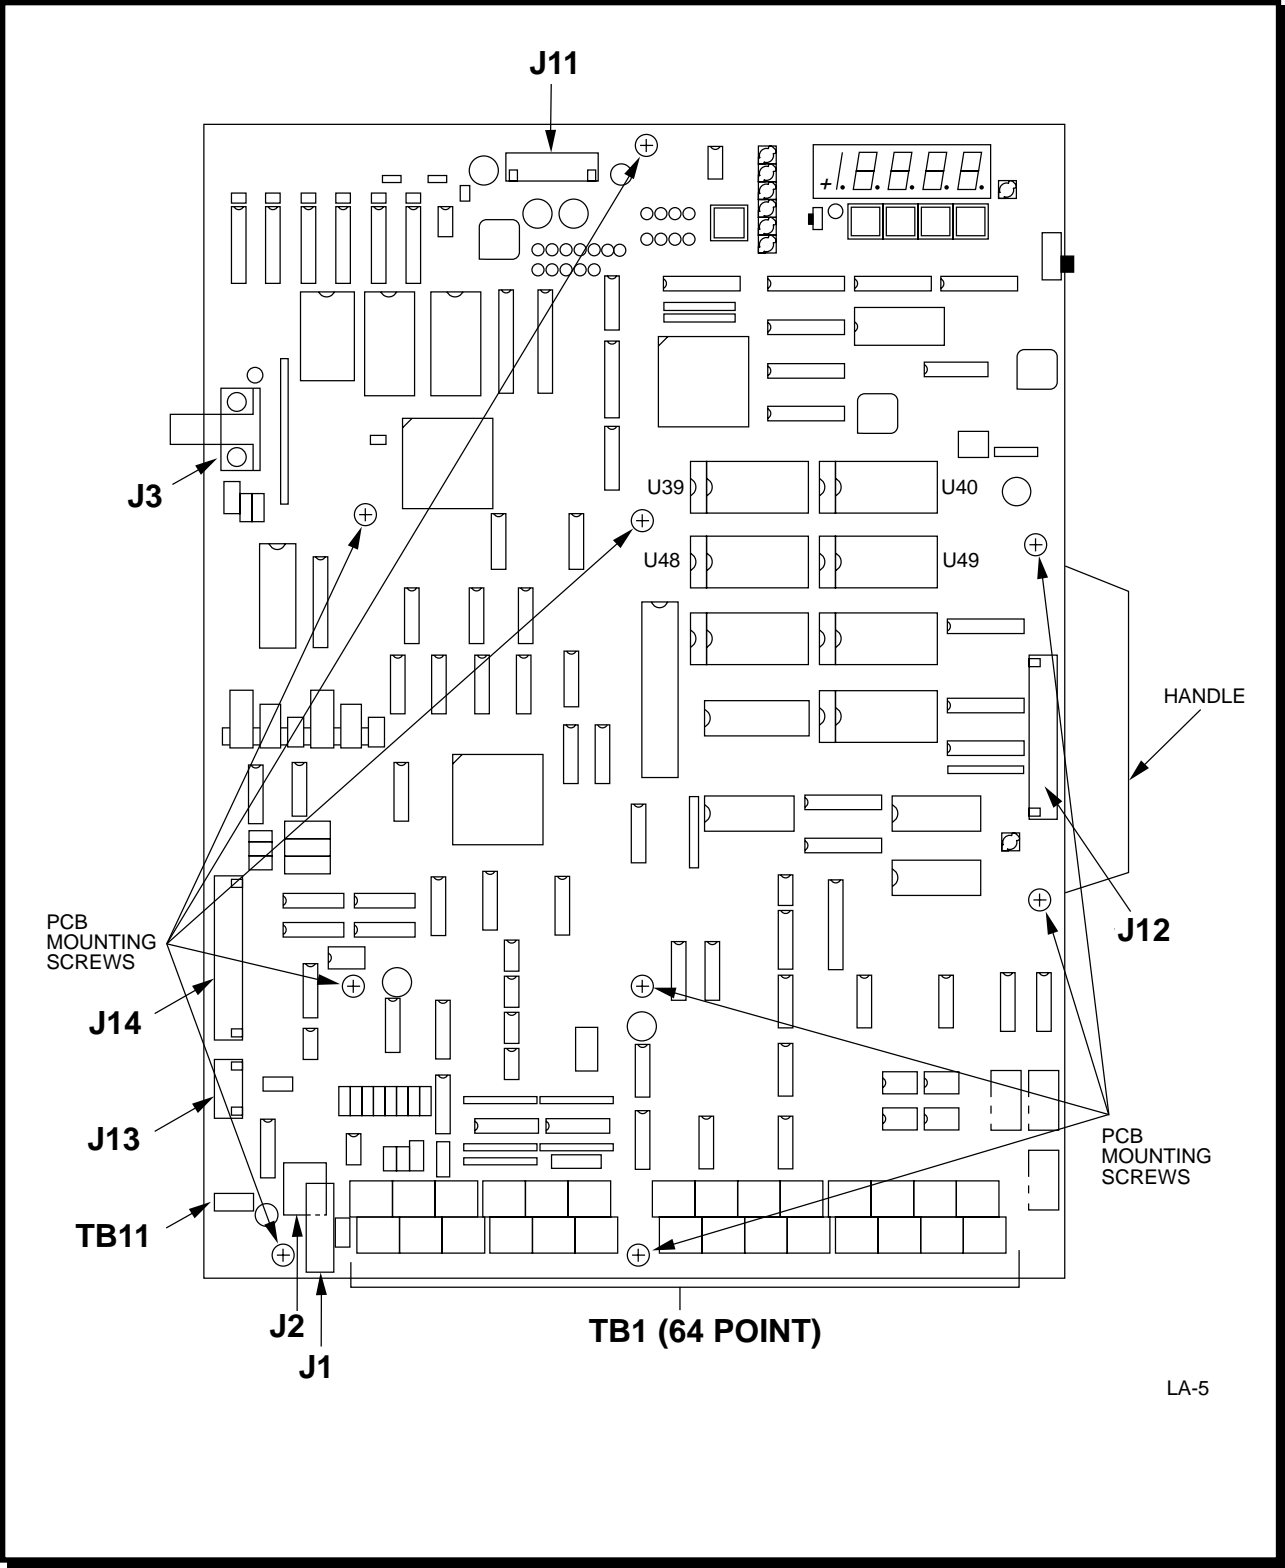

Figure 11. DSD Drive Control PCB
- Pull the handle on the right side of the DSD Drive Control PCB (see Figure 11) towards you and swing the top chassis clear of the lower chassis.
- Note where all cables/wires are connected, especially those connected to TB1 (see Figure 11). Label any cables/wires, as necessary, to insure proper reinstallation.
- Remove cables/wires connected to J1, J2, J3, J11, J13, J14, TB1 and TB11 (see Figure 11).
- Remove flash RAM U39, U40, U48, and U49 to reinstall on new Board (see figure 11)
- Remove the nine mounting screws (see Figure 11).